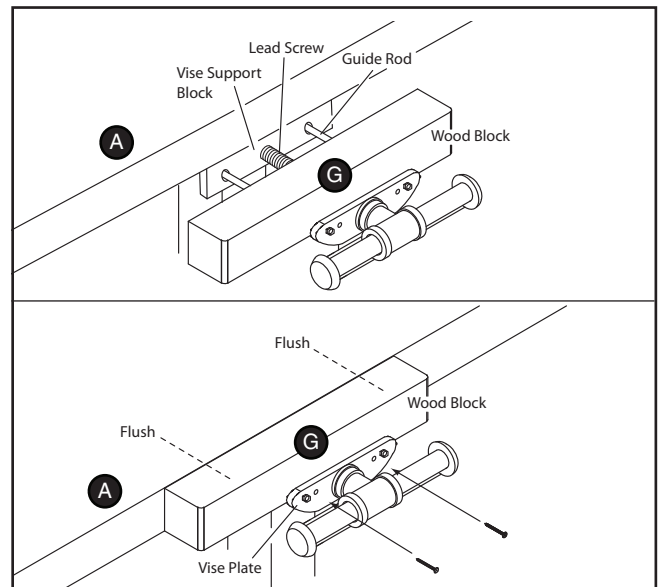

Figure 19. Table vise installation.
19. Insert the guide rods and leadscrew through the holes in the wood block (G) (**Figure 19**). Thread the leadscrew into the vise support until the wood block is slightly snug against the table and flush with the table top.
20. Keeping the wood block flush with the table top (**Figure 19**), drill two $\frac{5}{64}$ " holes $1\frac{7}{16}$ " deep through the vise plate mounting holes and into the wood block.
21. Secure the vise plate to the wood block with two (E10) #5 x $1\frac{7}{16}$ " wood screws (**Figure 19**). Install a cotter pin in the end of the lead-screw, and bend one pin leg to 90 degrees.